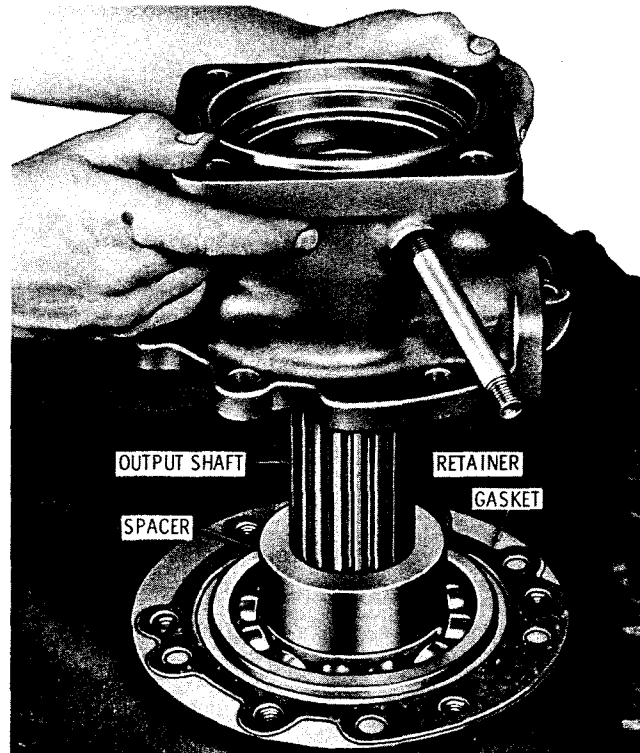

Fig. 5-42. Removing rear bearing retainer (models with parking brake)
(8) Remove six bolts and lock washers which retain the rear bearing retainer. Remove the retainer (fig. 5-42). Remove the spacer from the output shaft. Remove the retainer gasket. Refer to paragraph 6-7 for retainer rebuild procedures.